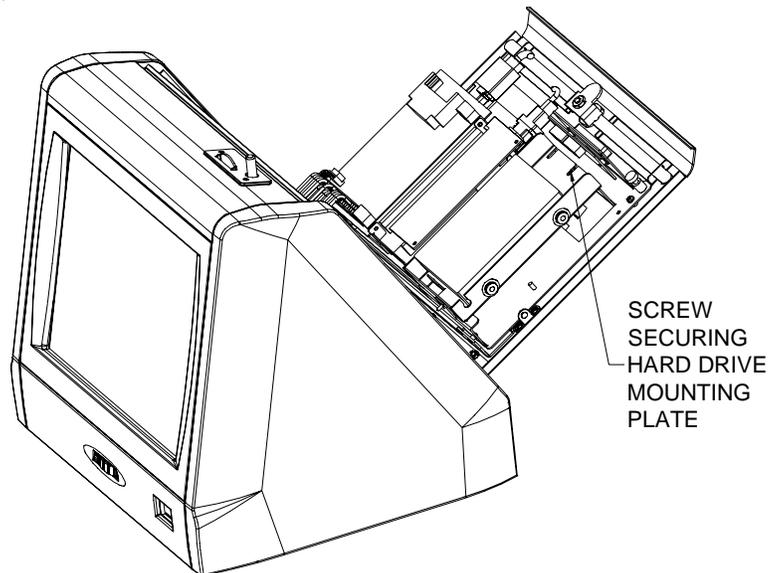

FIGURE 2 - HARD DRIVE ACCESS
3. Locate the hard drive and remove the 2 screws securing the hard drive mounting bracket to the game (see Figure 2), then remove the hard drive assembly until you're able to disconnect the hard drive power connector and the motherboard ribbon cable.